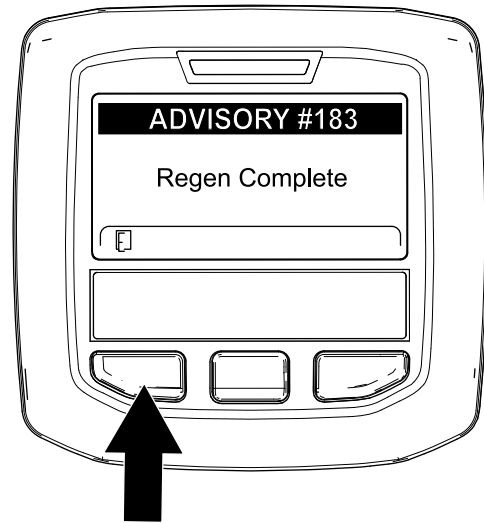

Figure 65
- When the engine computer completes a parked or recovery regeneration, the InfoCenter displays ADVISORY #183 (Figure 65). Press the left button to exit to the home screen.